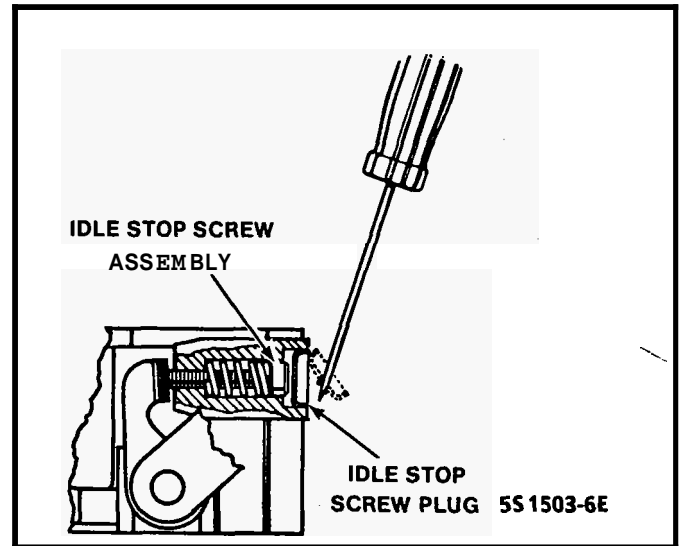

Figure C2-13 - Removing Idle Stop Screw Plug
The Idle Stop Screw, used to regulate minimum idle speed, is adjusted at the factory, then is covered with a plug to discourage unnecessary readjustment. However, if it is necessary to gain access to the Idle Stop Screw assembly, proceed as shown in Figure C2-13. (Except 3.8L & Turbo).
2. Idle air control valve, using a 32mm (1-1/4") wrench (J-33031 or equivalent). See Figure C2-13.